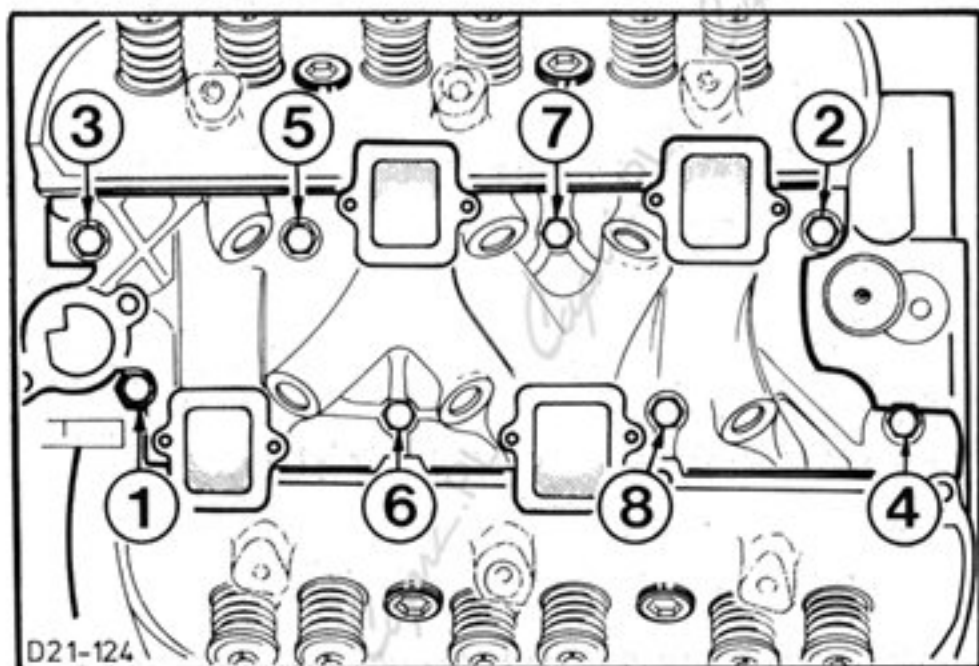

Fig.70. Inlet manifold bolt tightening sequence.
65. Fit inlet manifold, insert bolts and tighten with specified torque (see Technical Data) in four stages as shown in Fig.70.